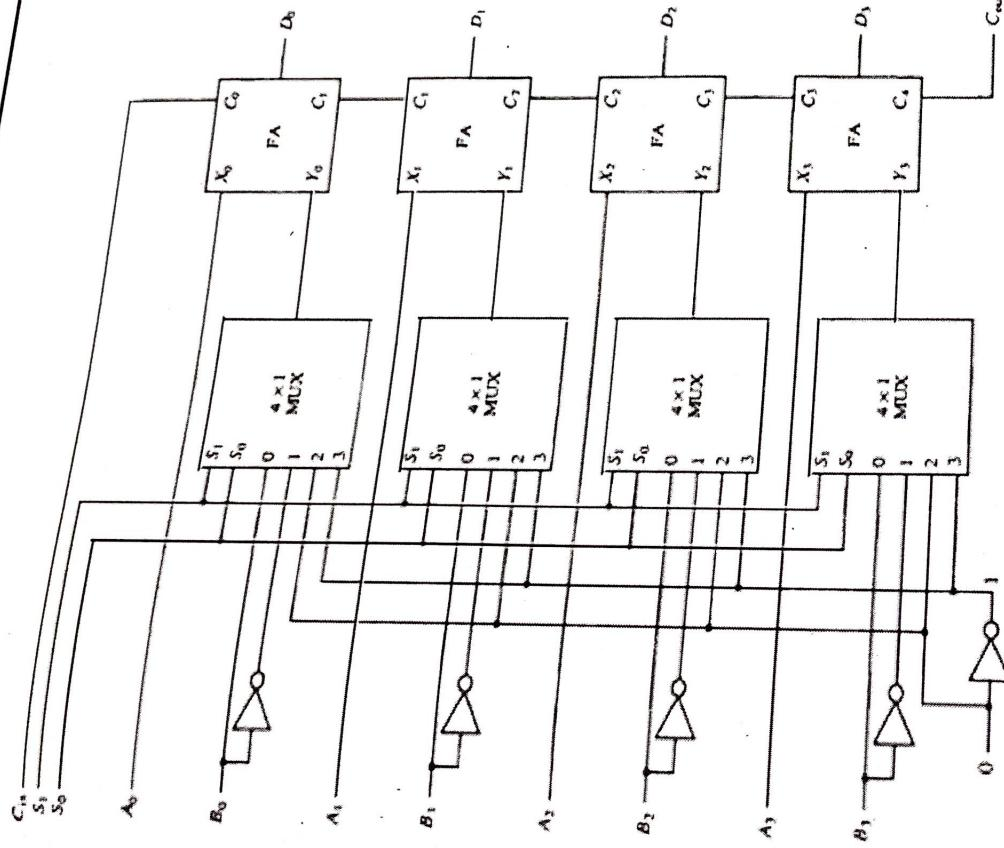

Fig 9: 4-bit arithmetic circuit
- By controlling the data inputs to the adder, it is possible to obtain different types of arithmetic operations. The diagram of a 4-bit arithmetic circuit is shown in Fig. 9. The output of the binary adder is calculated from the following arithmetic sum: